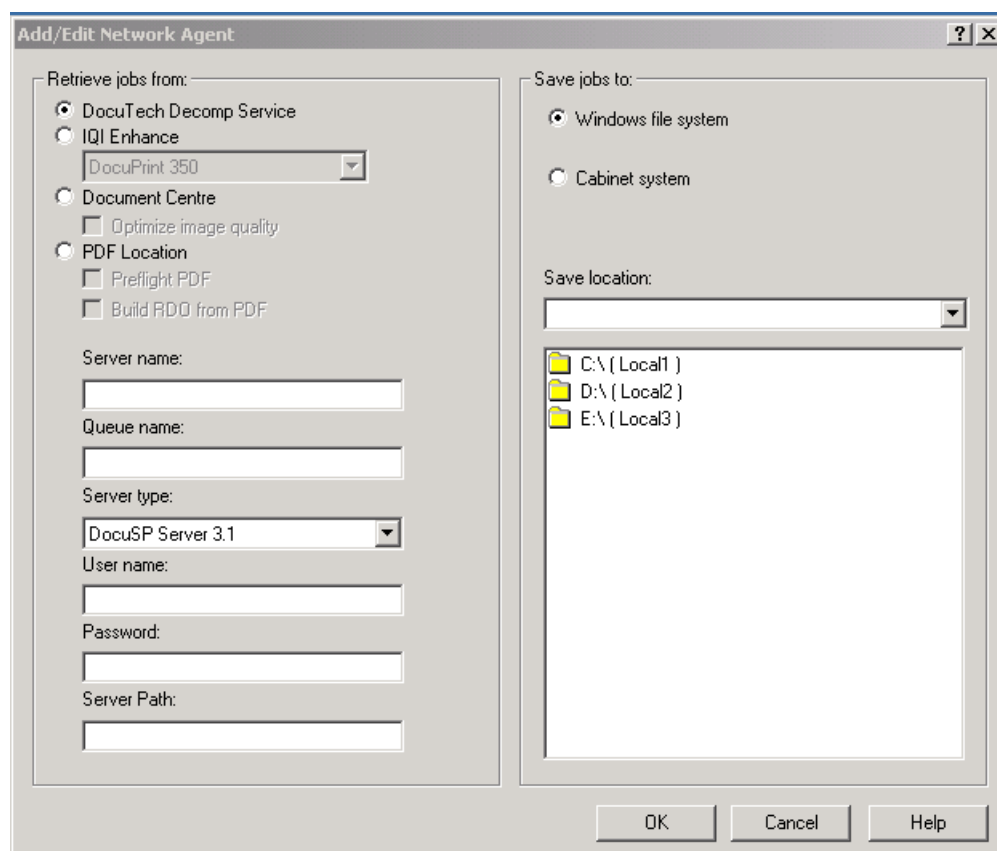

Figure 9-3. Add/Edit Network Agent Setup dialog box
4. Select [Add]. The Add/Edit Network Agent dialog box opens. See Figure 9-3.